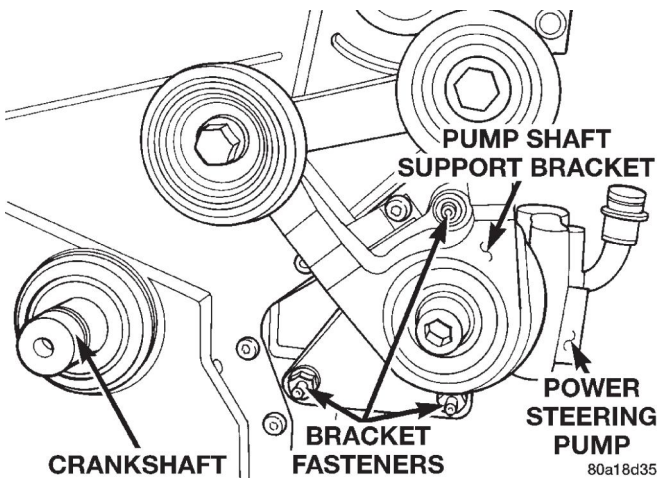

Fig. 40 Pump Shaft Support Bracket
- (7) Remove pump shaft support bracket assembly (Fig. 40).